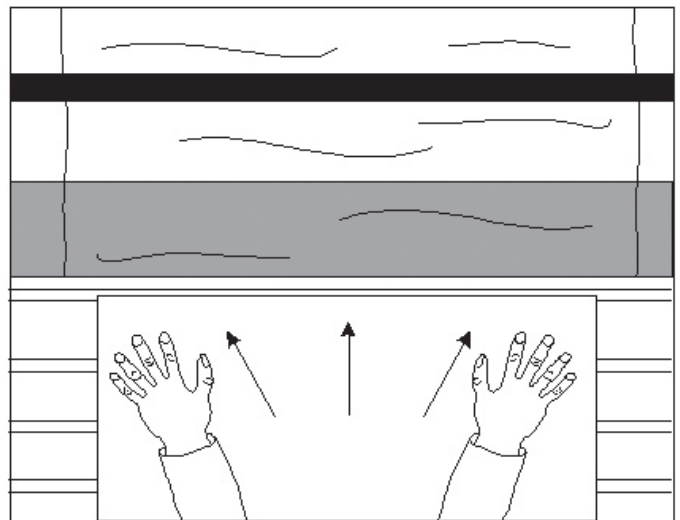

Fig 32
9. With both hands and an outward force push the image slower than the speed of the rollers into the nip of the heat rollers (Figure 32).